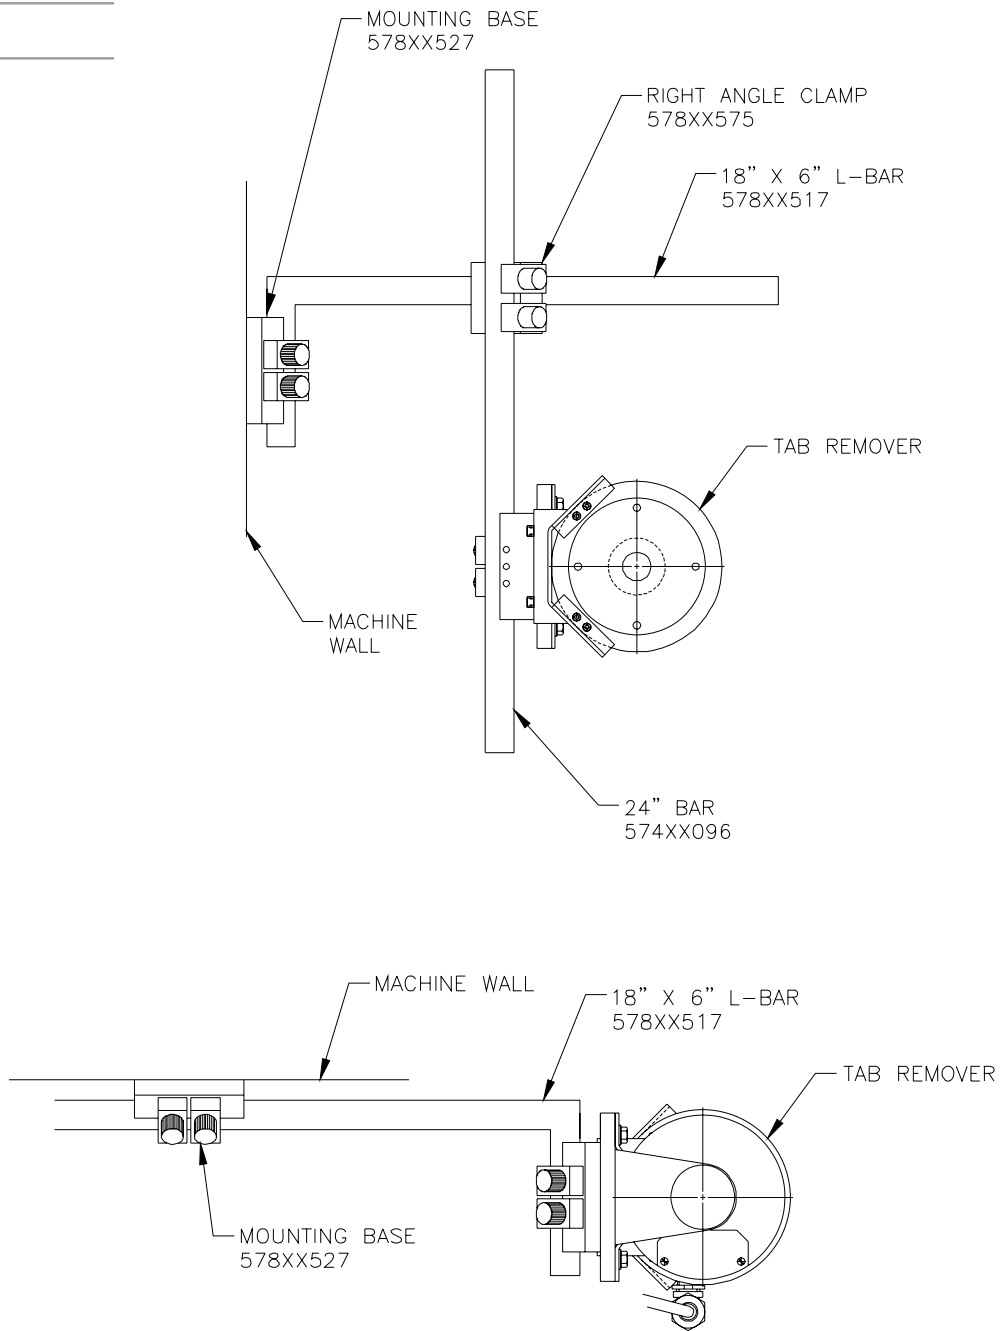

Figure 4-2 - Mounting Options
4. Determine the mounting style (Figure 4-2). Drill and tap holes in your folder gluer to accommodate the mounting base. The two mounting bases are linked with either a straight or elbow 1" (25 mm) bar. Determine the required bar size for your installation and cut to length if necessary.